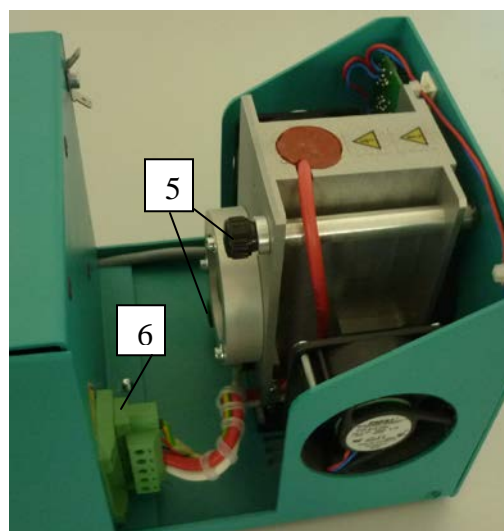

Figure 3
8. Loosen the screws (Figure 3, #5) by hand, disconnect the plug (Figure 3, #6), and remove the old bulb from the HPX-2000.